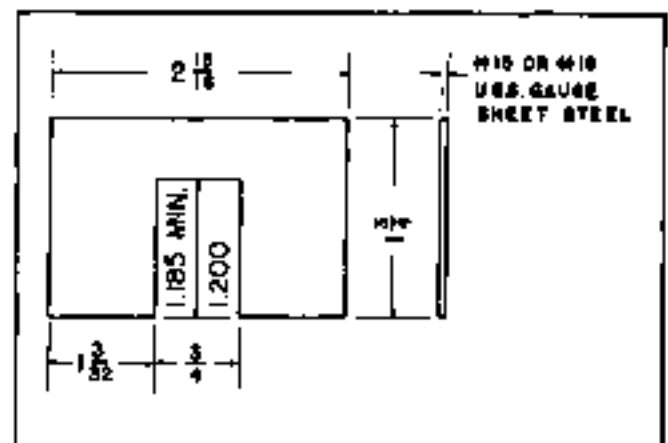

Fig. 5C-10 Push Rod Gage
ASSEMBLY OF PUSH ROD BOOT AND MASTER CYLINDER TO POWER UNIT (Fig. 5C-1)
2. Before mounting master cylinder, check distance A (Fig. 5C-9) from hydraulic push rod to master cylinder mounting face on front shell. This dimension A, as shown in Figure 5C-9, should be 1.200". If push rod length is not correct, follow adjustment procedure below. When push rod length is correct, attach master cylinder to power section with lockwashers and nuts. Tighten nuts to 24 lb. ft. torque.